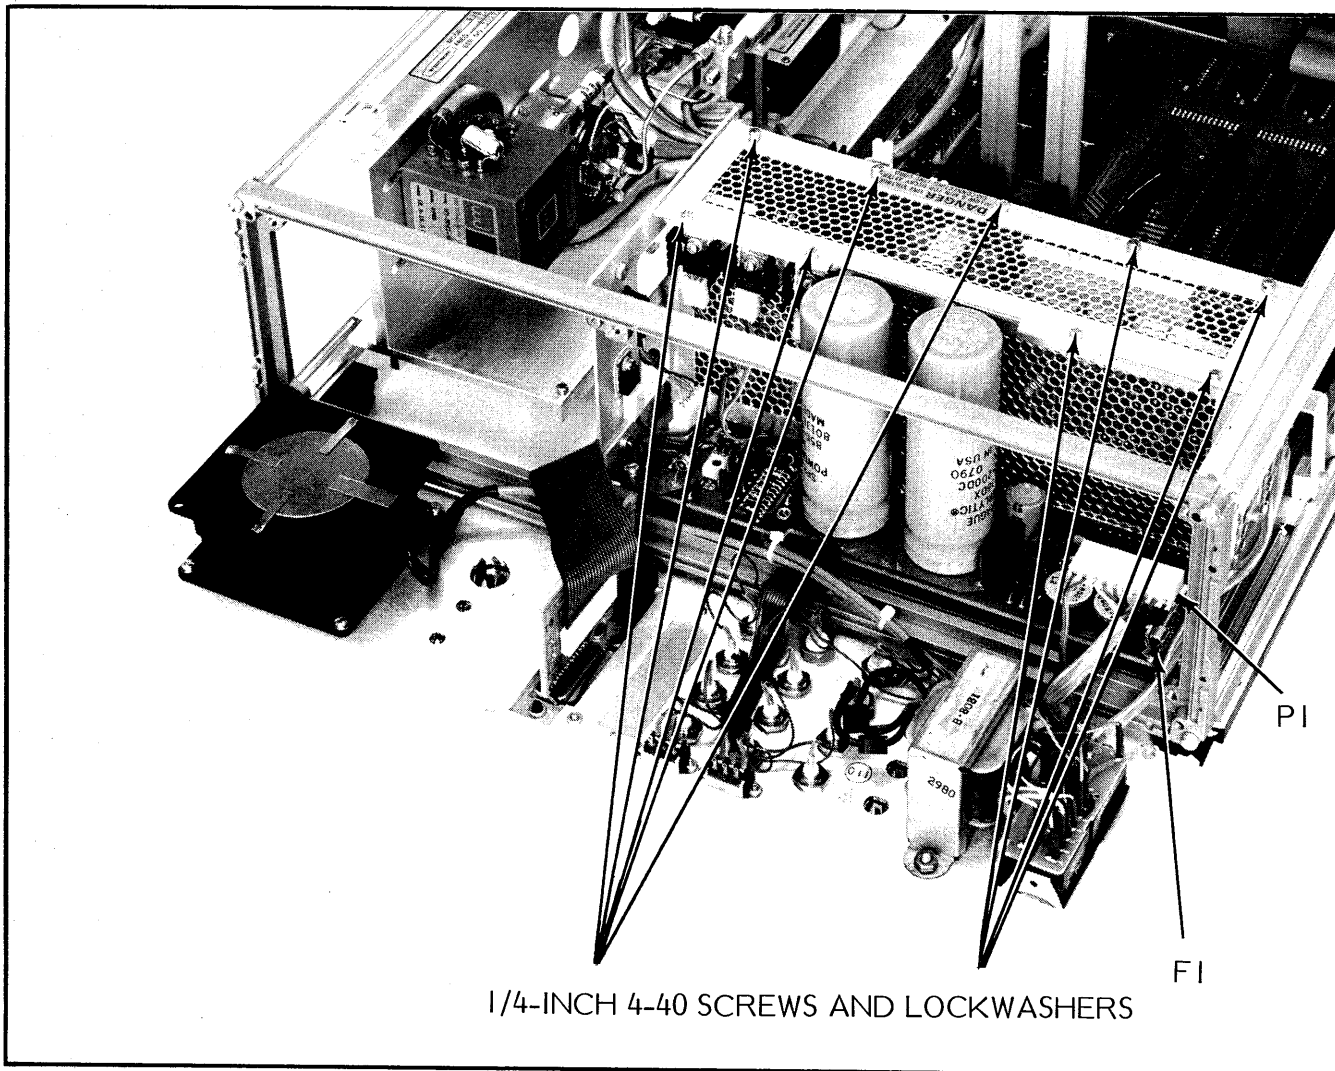

Figure 7-5. 6600A Series Programmable Sweep Generator, Rear Quarter Panels and Assemblies
3. Disconnect the Molex connector from A14P1 (Figure 7-5).
Avoid touching the terminals on the 5A FB fuse, A14F1, (Figure 7-5) when power is turned on. +165 Vdc is present on these terminals.